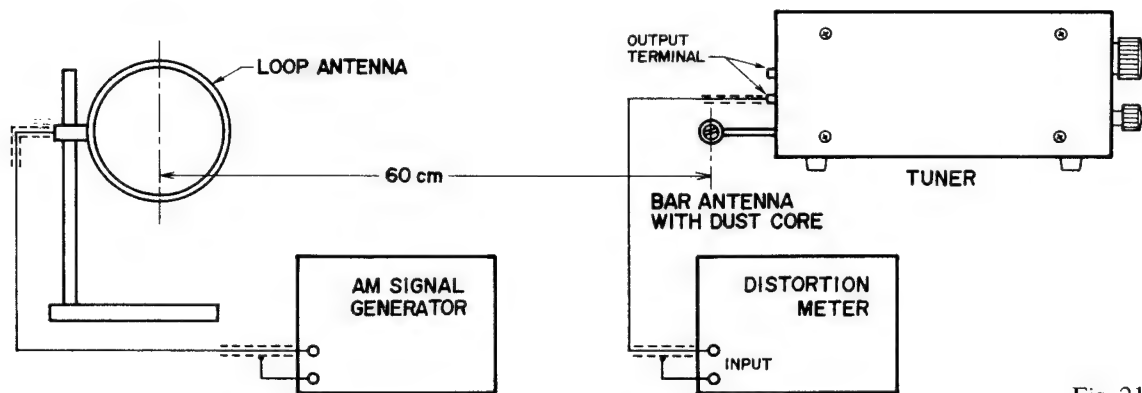

Fig. 21
- 1) Connect the various measuring instruments as shown in Fig. 21.
- 5) Adjust dust core of Bar Antenna shown in Fig. 21 until the distortion meter level is maximum and the distortion factor is minimum.